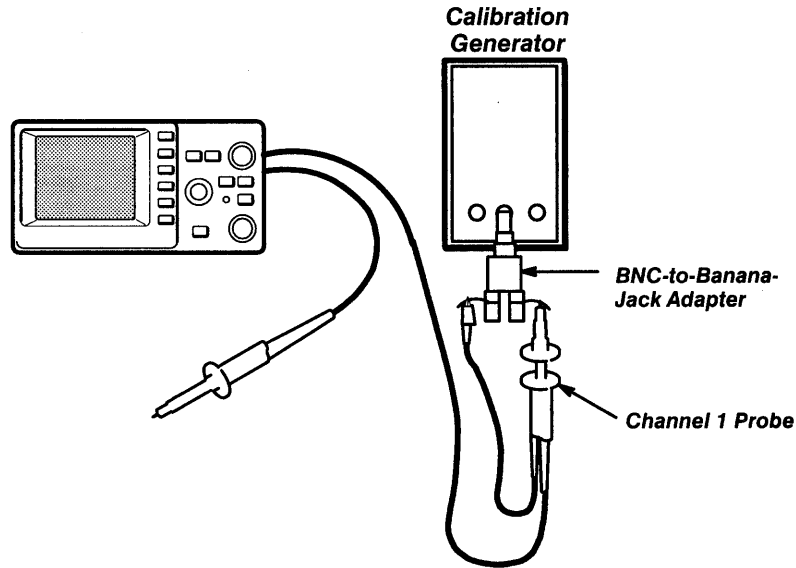

Figure A-14: Setup for Input Coupling Check
2. Check Input Coupling (Set up the test equipment as shown in Figure A-14.)